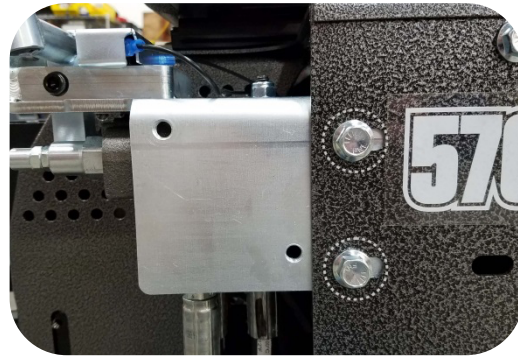

Fig. 6
6. Remove mounting bolts and single valve bracket assembly (Figure 6).